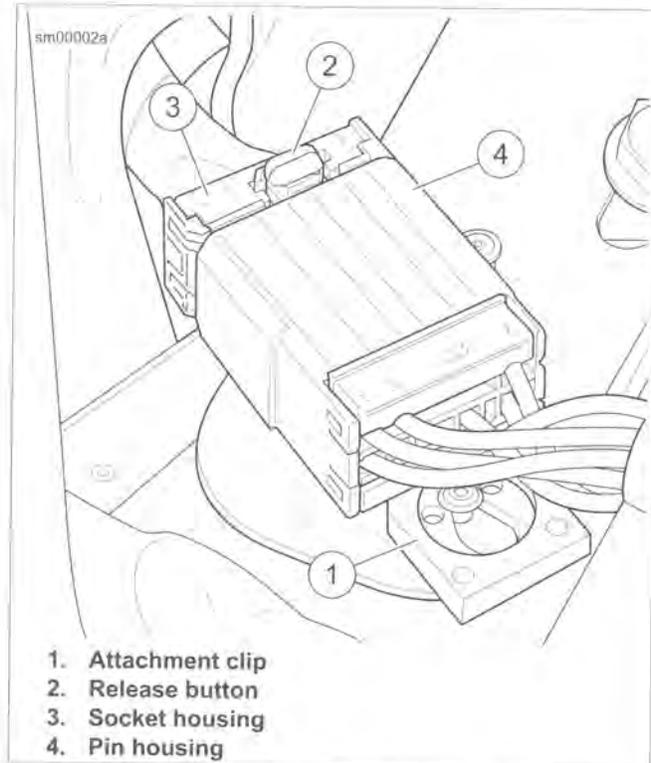

Figure A-63. Tyco 070 Multilock Unsealed Connector
See Figure A-63. Attachment clips (1) on the pin housings are fitted to T-studs on motorcycle frame. The T-studs identify OE connector locations. To maintain serviceability, always return connectors to OE locations after service.
2. See Figure A-63. Press the release button (2) on the socket terminal side of the connector.
3. Pull the socket housing (3) out of the pin housing (4).